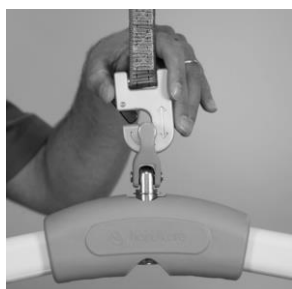

Figure 10: Open the latch
2. Push the latch down to open it (figure 10).